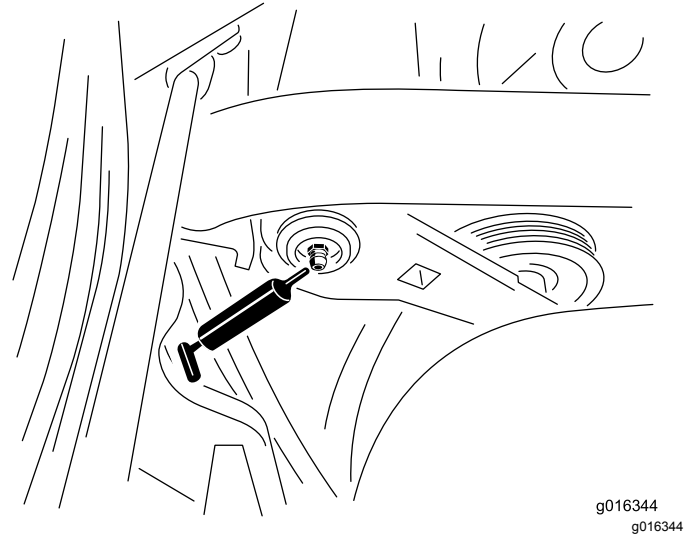

Figure 24
1. Wipe the grease fitting clean so foreign matter cannot be forced into the bearing or bushing (Figure 24).